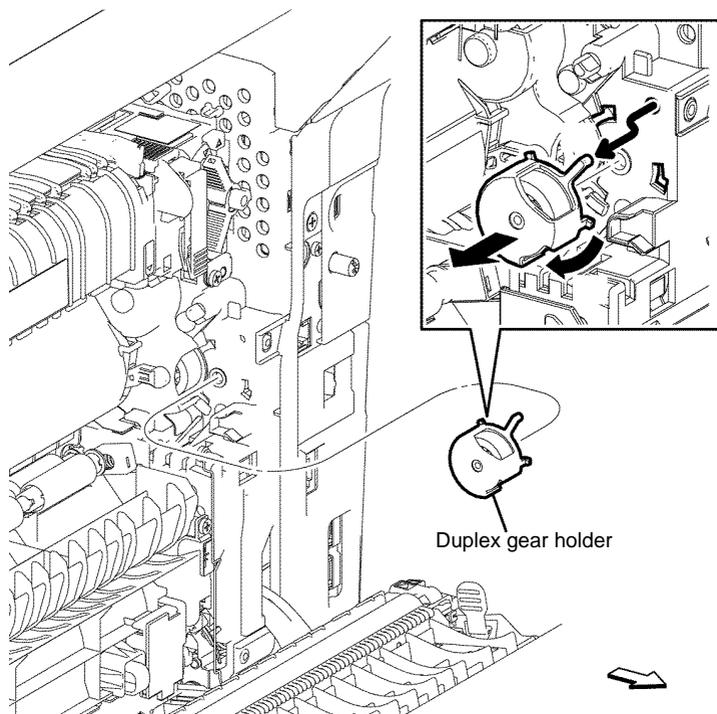

Figure 1 Duplex gear holder removal
2. Rotate the duplex gear holder, clockwise while pulling the tab, Figure 1.